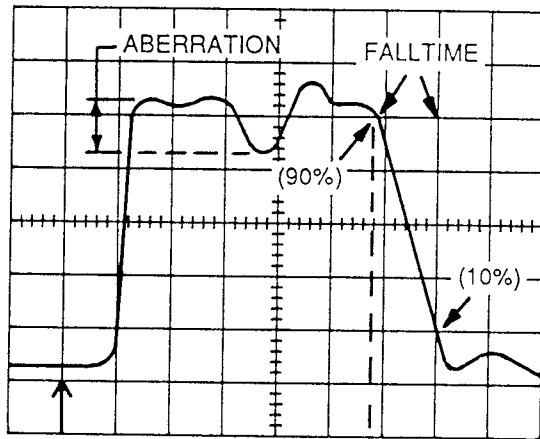

Fig. 4-20. Opt 02 Falltime/Aberration
3. Slowly turn the ZERO REF (SET) control clockwise until the pulse is on screen (see Fig. 4-20).
4. Set the pulse with the ZERO REF (SET) control (do not move the POSITION control) so that the bottom right corner of the pulse is touching any vertical graticule line and the second horizontal graticule line up from the bottom (see Fig. 4-20).
5. From the point at which the pulse intersects the second horizontal graticule line up from the bottom (10%), to the point where it intersects the second horizontal graticule line down from the top (90%) can be no more than 1.6 (metric 1.93) major divisions (see Fig. 4-20).
6. Measure the Option 02 aberration: verify that from the front corner of the pulse down to the bottom of the large notch in the middle of the pulse is less than or equal to 1.8 vertical divisions (see Fig. 4-20).
7. Perform Vertical Calibration procedure, Step 10, parts A through I. Check aberrations and falltime as per Figures 4-18 and 4-19 (Option 02 Figure 4-20).